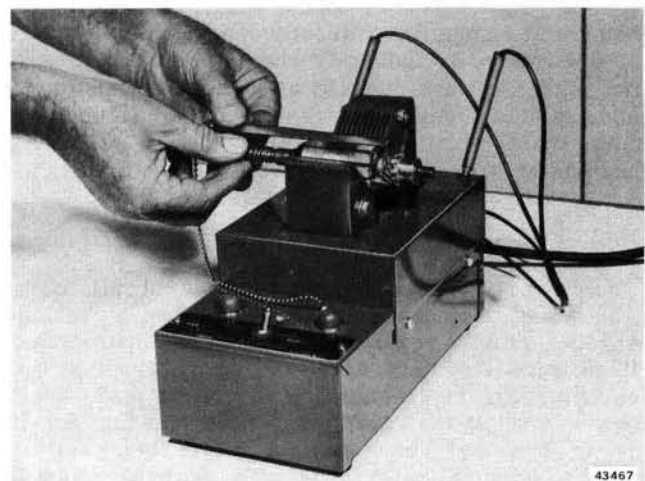
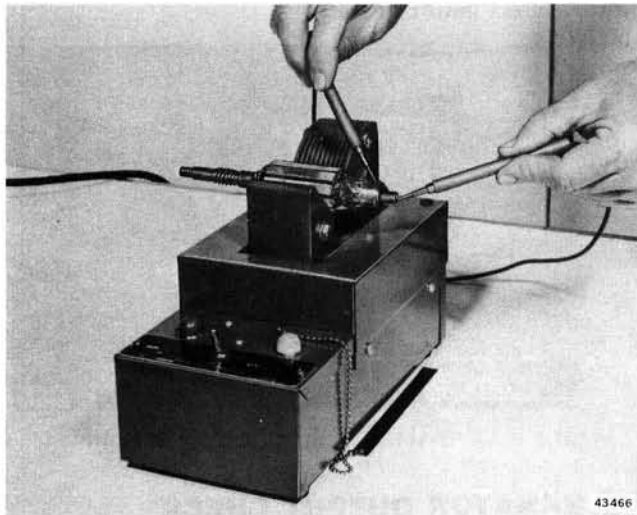

Figure 7-6. Checking for Shorted Turns
Figure 7-7. Checking for Grounding
c. Check the armature on a growler for shorted turns. See Figure 7-6. Check armature for grounding by using a test light or meter. See Figure 7-7. Inspect armature insulation for indications of overheating or damaged windings. Clean off any deposits of carbon or foreign matter which may contribute to later failure of the windings.